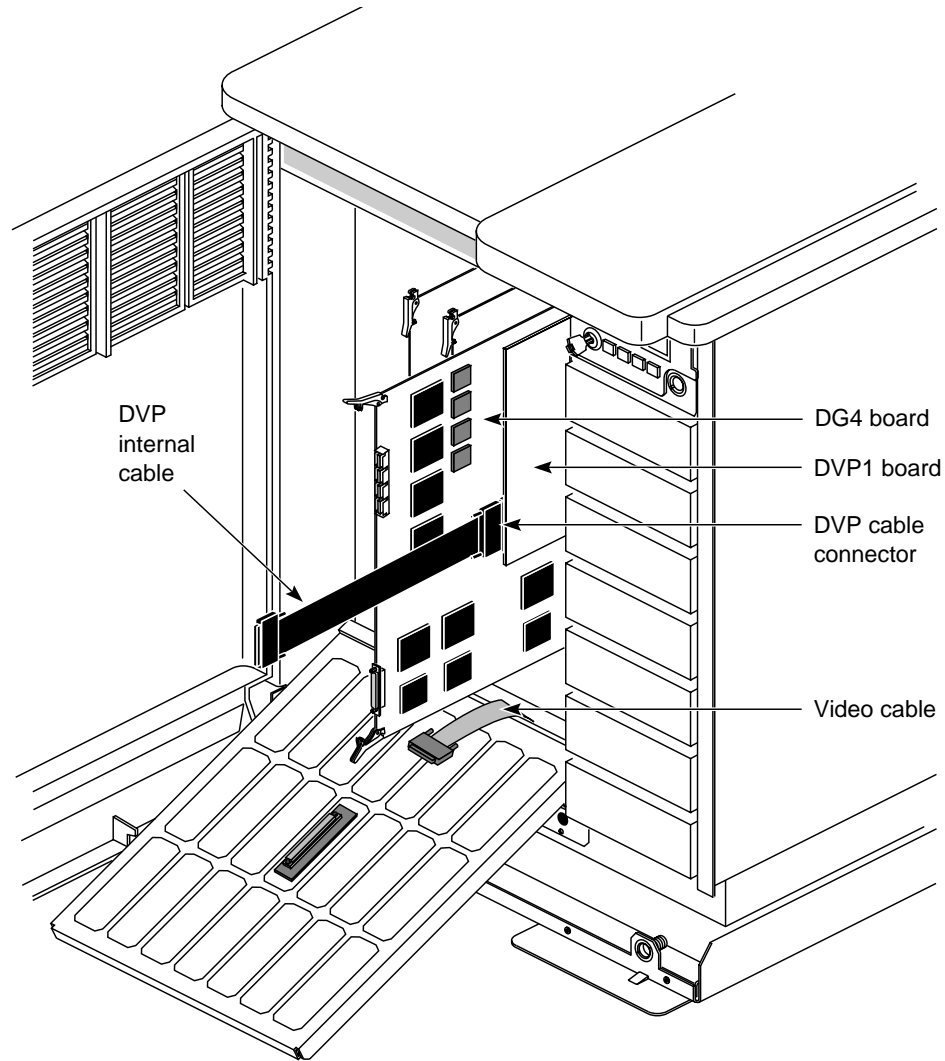

Figure 2-3 Installing the DDO Board Set
- Figure 2-3 Installing the DDO Board Set..... 2-5**
To install the new DDO board set in the system chassis, see Figure 2-3 and complete the following steps: